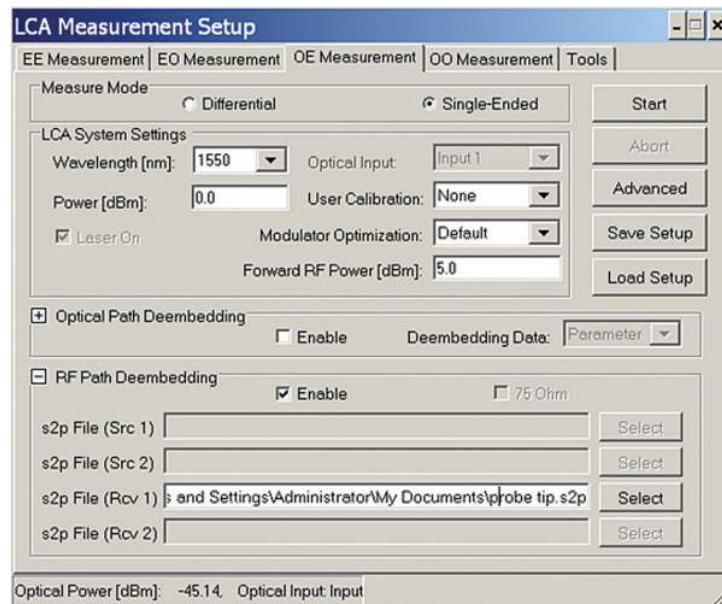

Figure 20. LCA Measurement Setup window
3. Enable RF Path Deembedding by clicking the Enable field (see Figure 20)